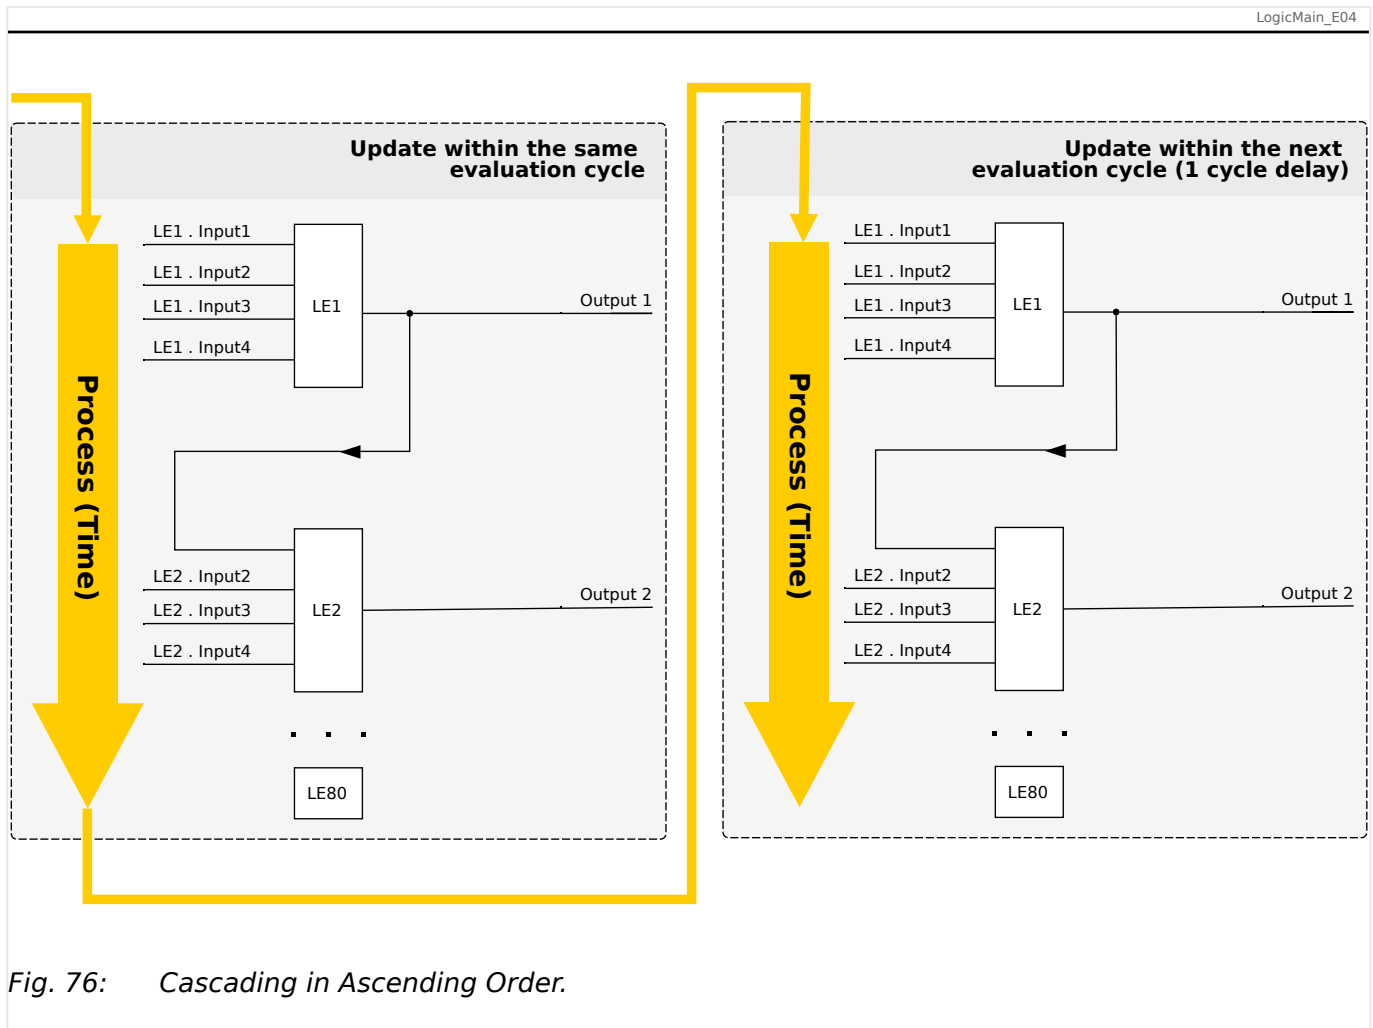
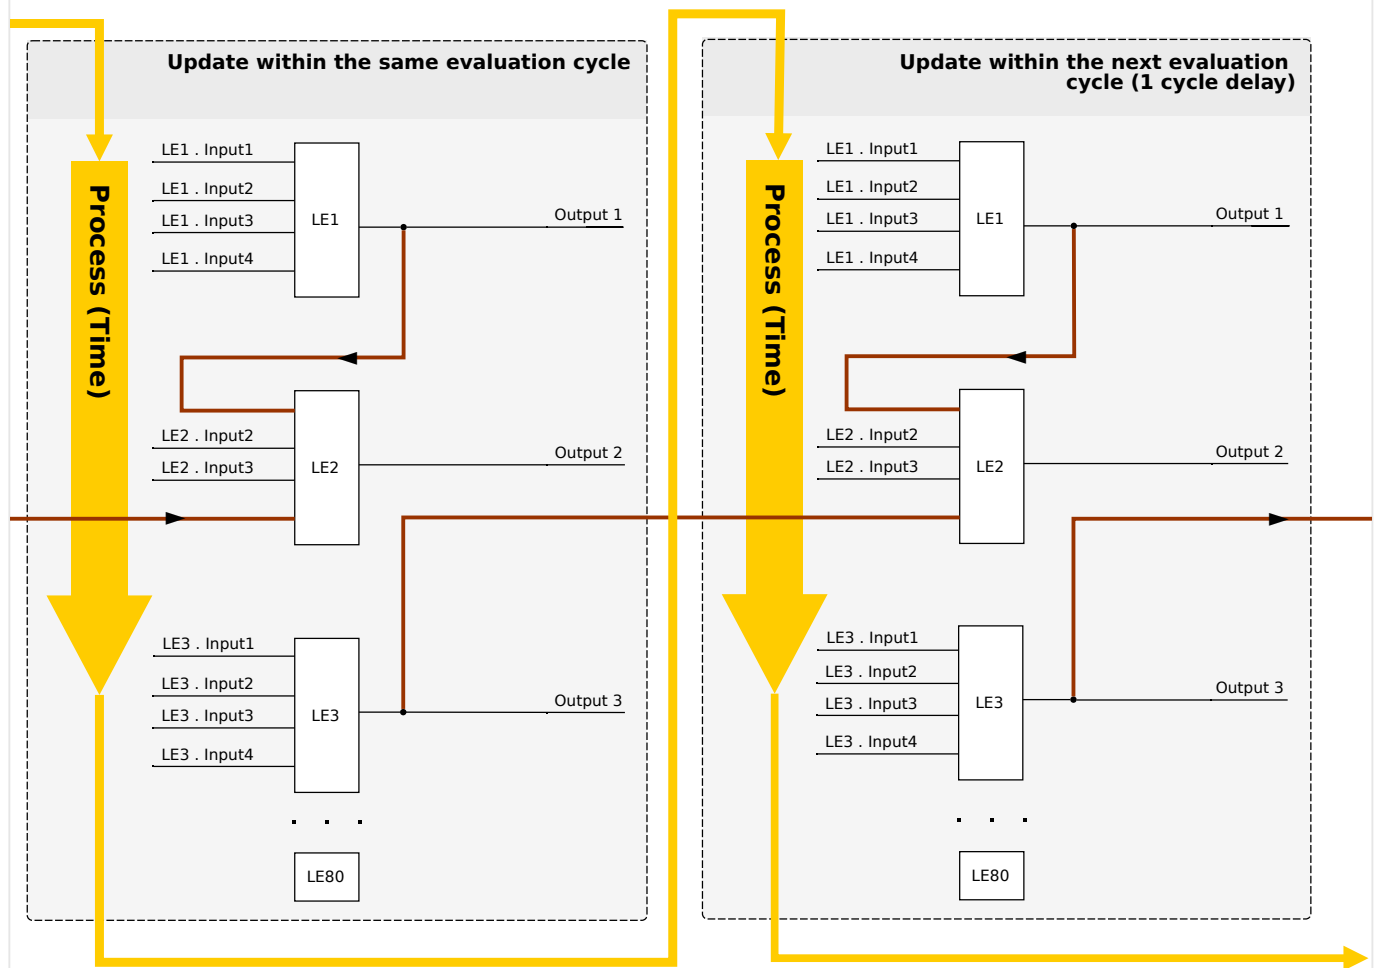

Fig. 76: Cascading in Ascending Order.
Fig. 77: Cascading in Descending Order.
- **Ascending** sequence means that some output is fed into the input of a logic equation with **higher** number. For instance, diagram  Fig. 76 below shows an example where the result of Logic Equation LE1 is used as an input of Logic Equation LE2.
- **Descending** sequence means that some output is fed into the input of a logic equation with **lower** number. For instance, diagram  Fig. 77 shows an example where the result of Logic Equation LE3 is used as an input of Logic Equation LE2.
Both ascending and descending sequences may be used and combined one with the other, with no immediate difference. However, due to the evaluation of all equations in ascending order the actual run-time values that are fed in at the input of an equation will have a different “age”, as is shown in  Fig. 76 and  Fig. 77 below.
In the example shown in  Fig. 77 above, “Logic Equation 2” uses the output states of two other equations, “Logic Equation 1” and “Logic Equation 3”. The result of “Logic Equation 1” is used in ascending order and has therefore been evaluated within the same process cycle. The result of “Logic Equation 3” is used in descending order and has therefore been evaluated in the previous process cycle.